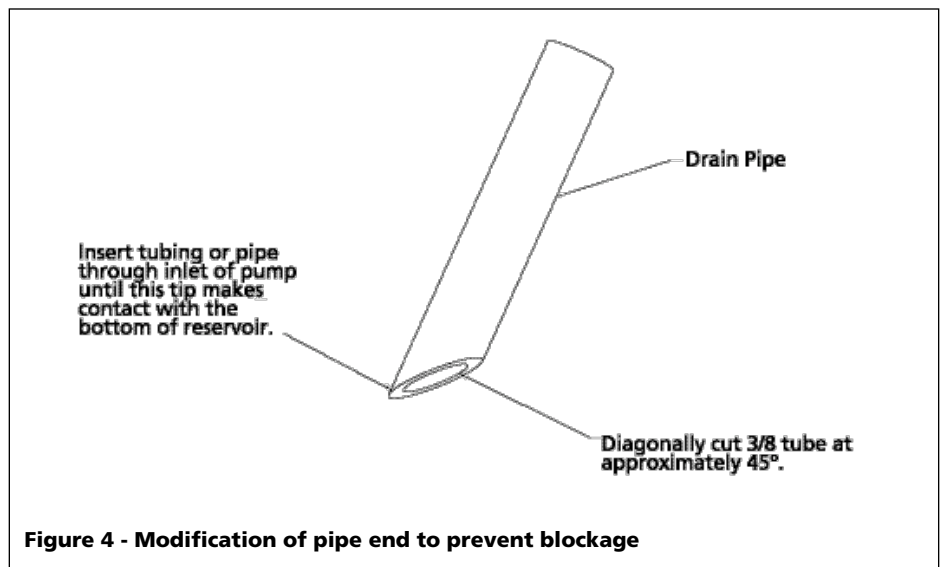

Figure 4 - Modification of pipe end to prevent blockage
- A. To prevent pipe blockage in the reservoir, modify the end of pipe or tubing as illustrated in Figure 4.